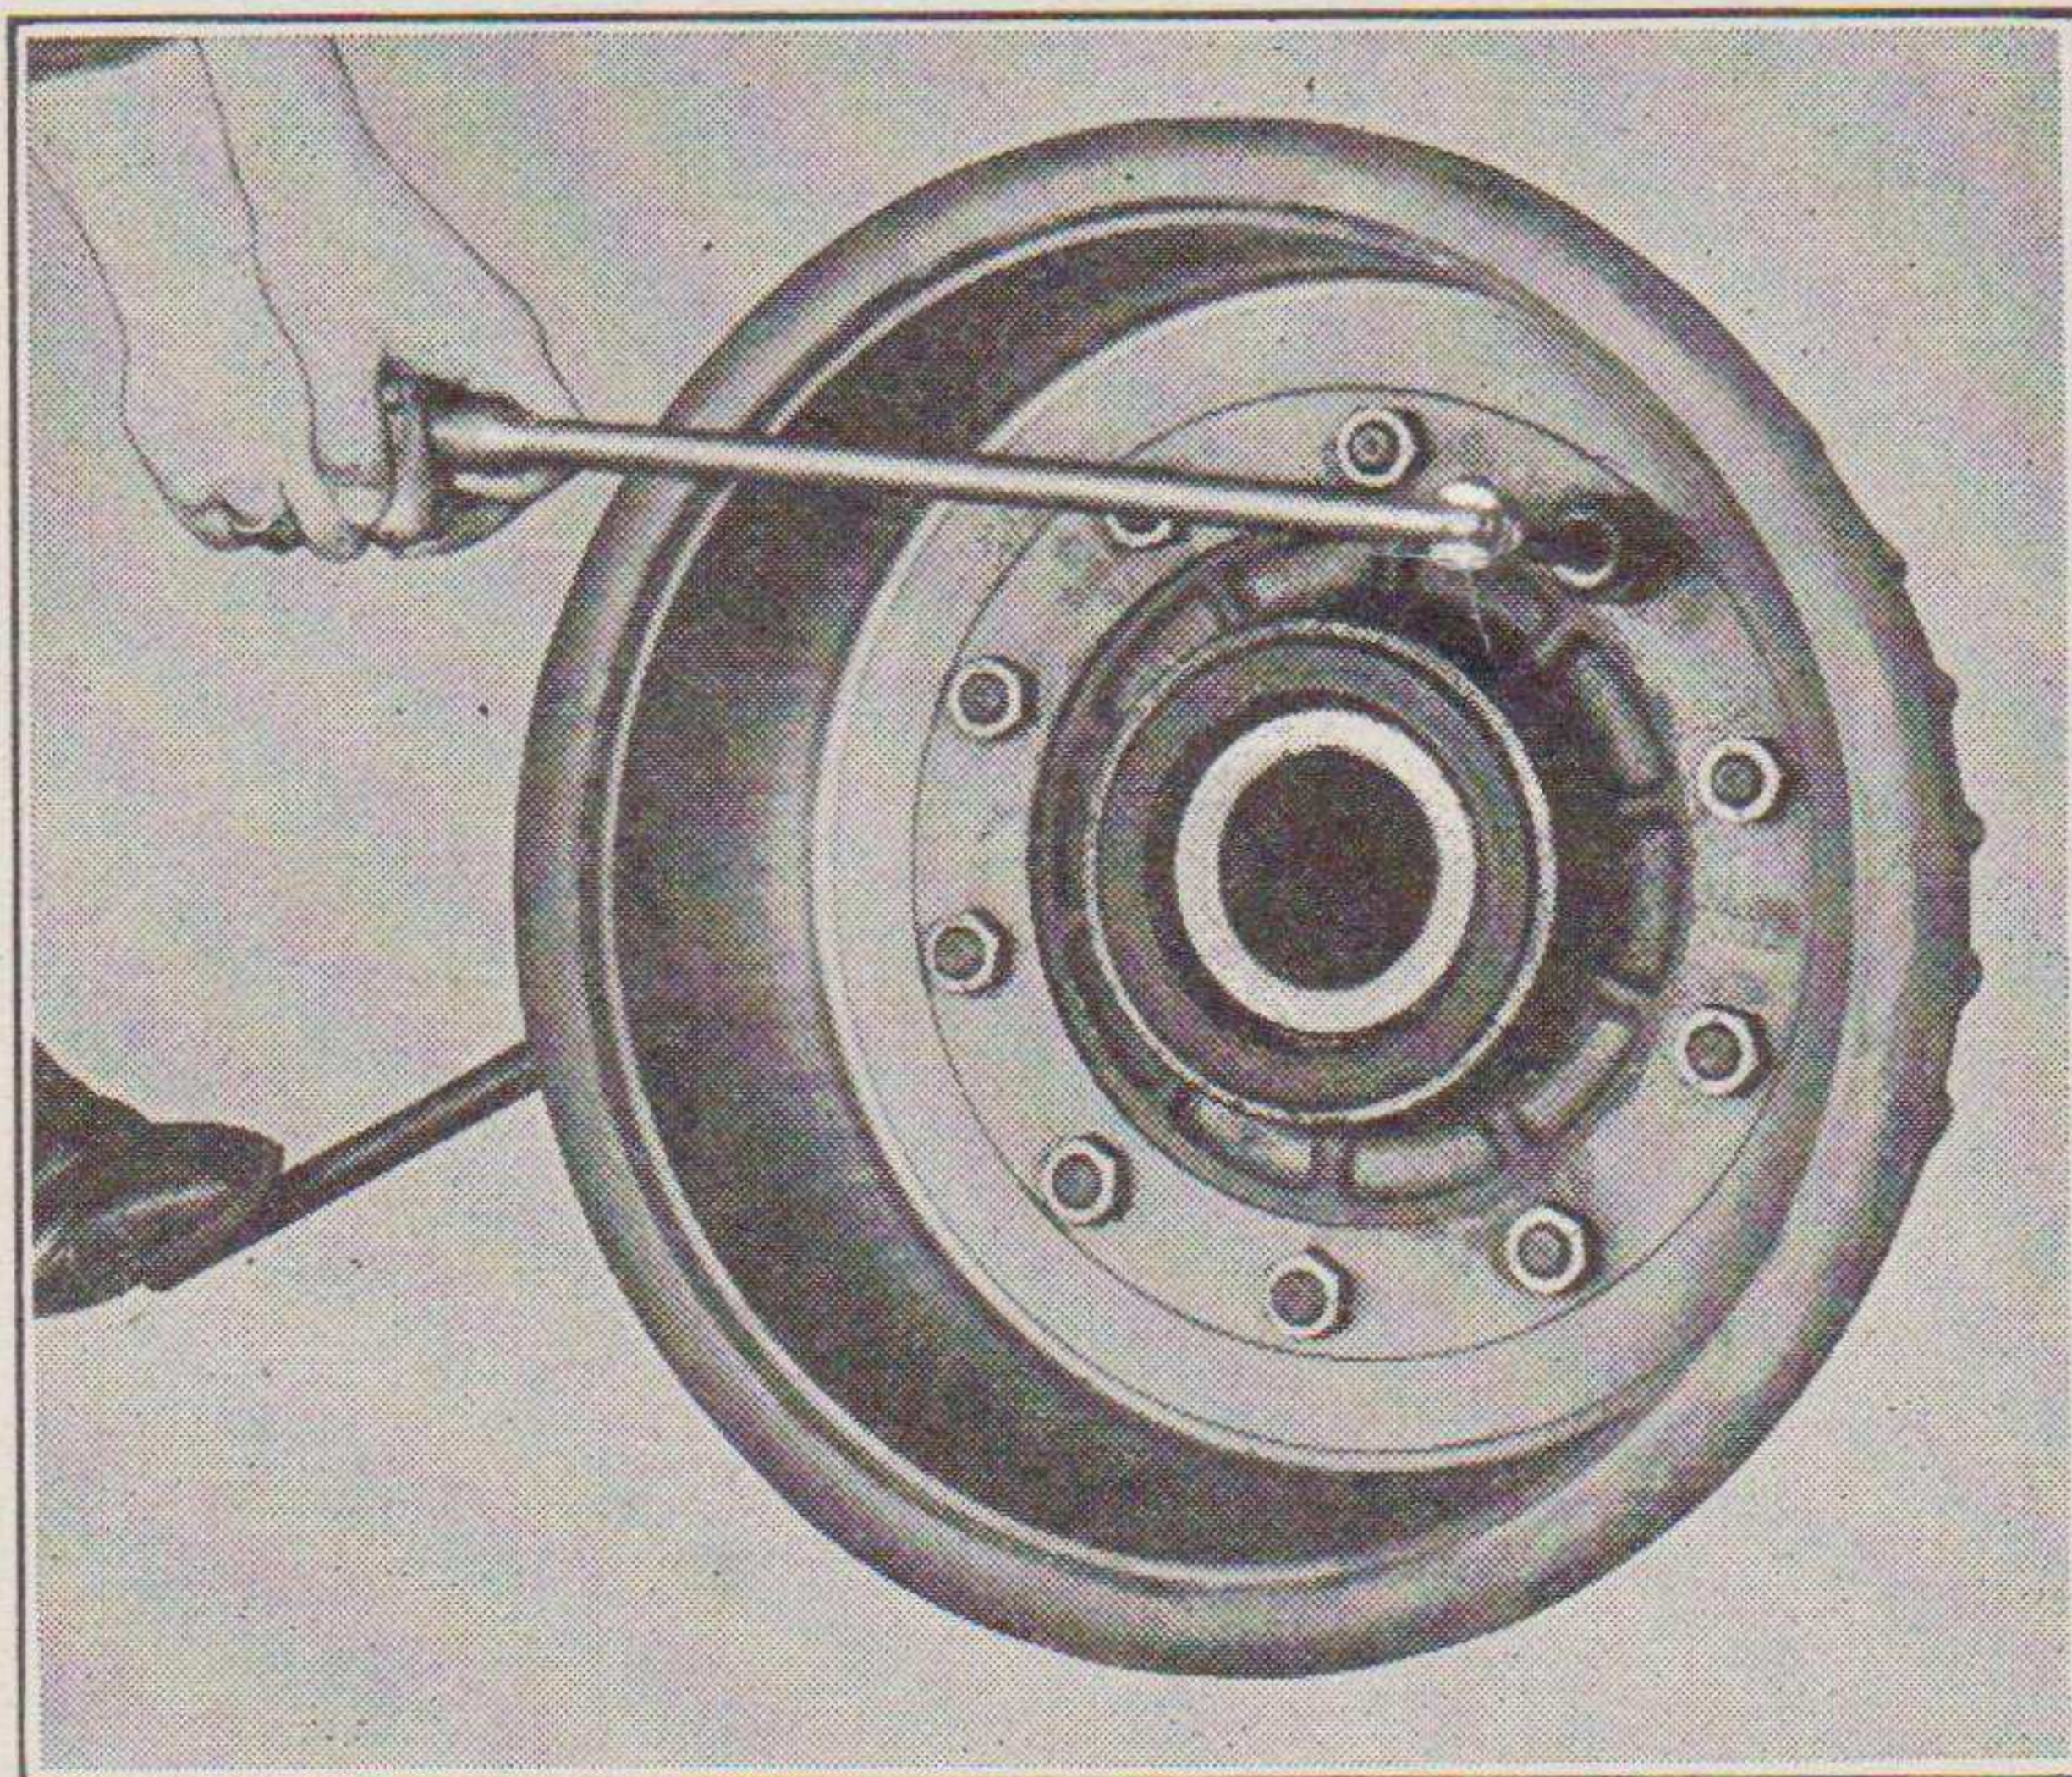

FIGURE 14. REPLACING BRAKE DRUMS
(1) Remove wheel and hub assembly.
(2) If changing drum on the front wheel, block the wheel at both sides and remove the drum by removing the ten nuts holding it to the hub assembly.
(3) If changing a drum on the rear hub, place wheel wrench handle in hub vents, and remove the ten nuts holding drum to hub. (Refer to Figure 14.)